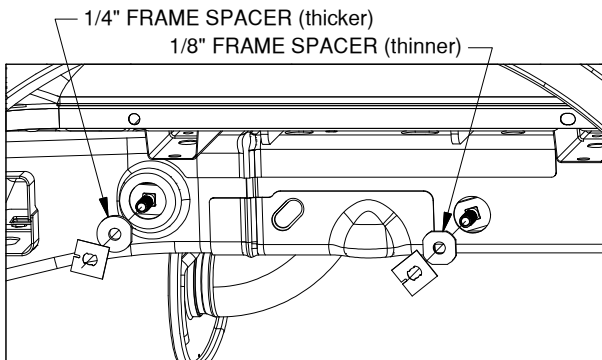

Figure C3: View of driver side wheel well.
2. **Install frame spacers.** Install a frame spacer into each hole. The 1/8" (thinner) frame spacer will install in the rear hole in the frame and the 1/4" (thicker) frame spacer will install in the forward hole. To prevent the carriage bolts from falling into the frame. Thread a 1/2" retainer onto each bolt until it is snug against the frame, see figure C3. Repeat steps 1 & 2 on the other side of the truck.